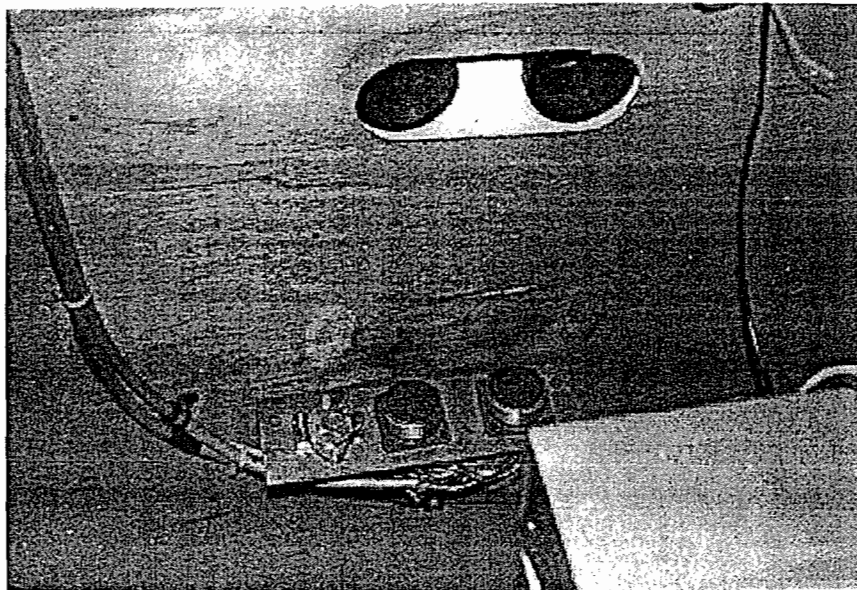

Figure 2.7.2: Cable Plugs Inside Trailer
2.7.2 Insert the other cable end into the pipe fittings. Attach the cable end to the mating plug inside the trailer. (Figure 2.7.2)